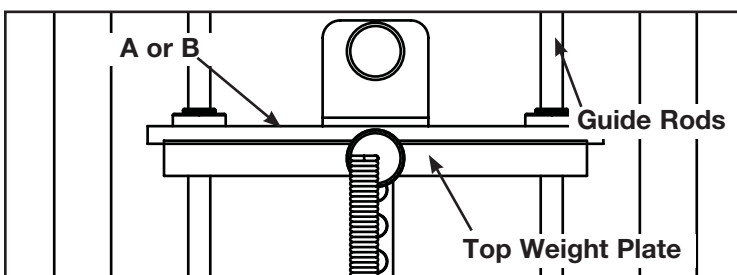

Figure 7
- D. Slowly lower half weight (A or B) down guide rods and rest on weight plate. See Figure 7.